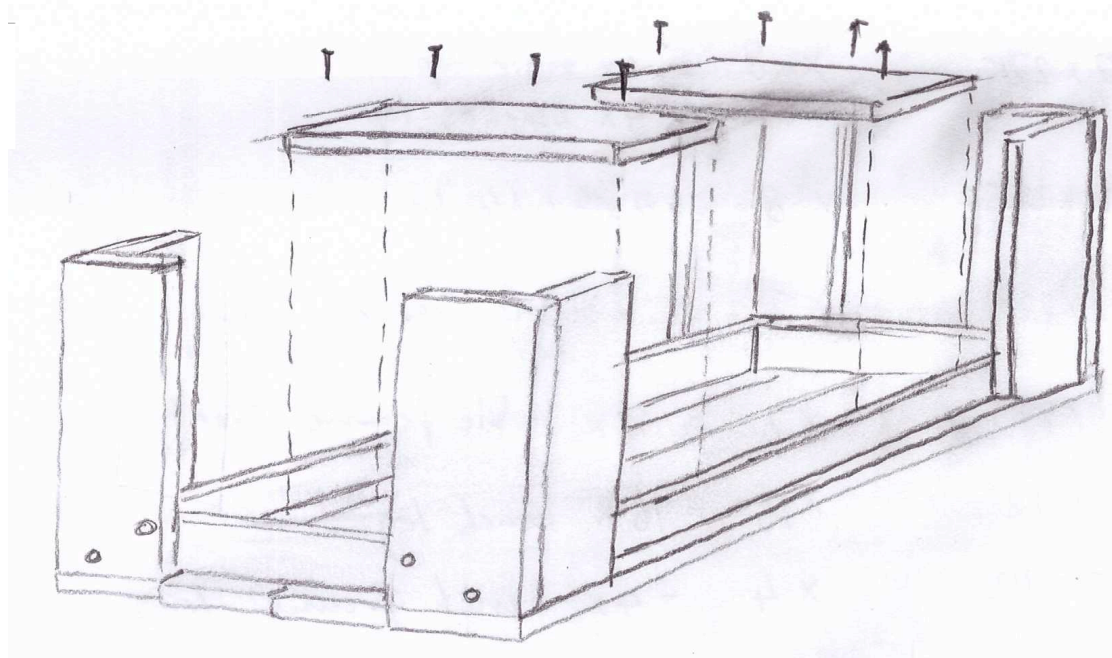

Figure 4 - Constructing the tabletop
To construct the tabletop, lay out the four boards (A) that make up the tabletop on the floor. Then put the frame on top of the boards and line up the corner of the frame with the corners of the tabletop. Now drop in the tabletop battens (H) and secure each tabletop batten with two screws in each of the four tabletop boards (A) as shown in 'Figure 4 - Constructing the tabletop'.